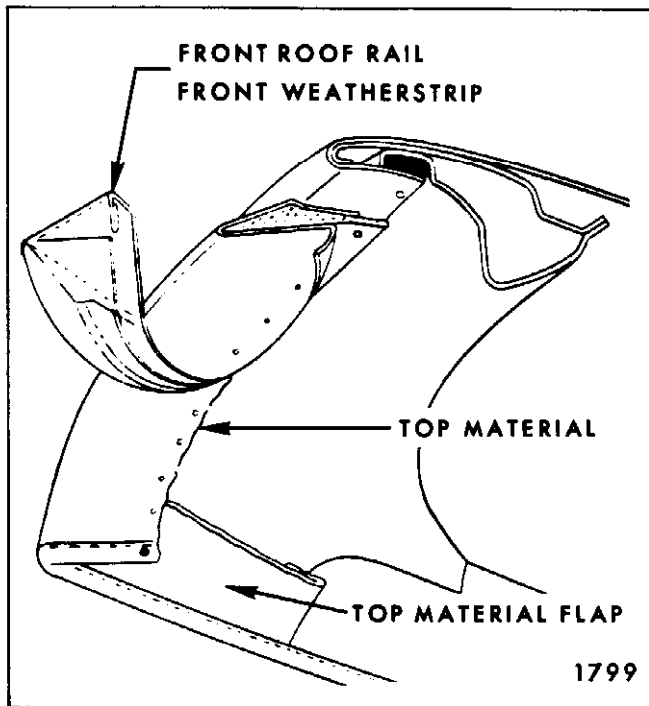

Fig. 13-2 - Top Material At Front Roof Rail
10. Detach top material from front roof rail (Fig. 13-2).
11. Detach top material flaps from side roof front rail (Fig. 13-2).